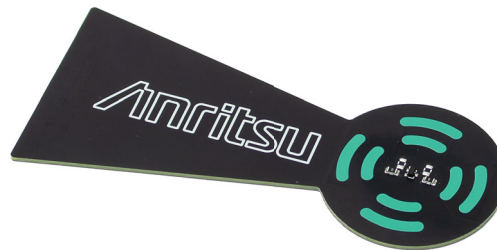

Figure 4-18. PIM Source (Calibration Device)
- Notice that the center distance value shown in the figure 4-18 will be large since it is uncalibrated.